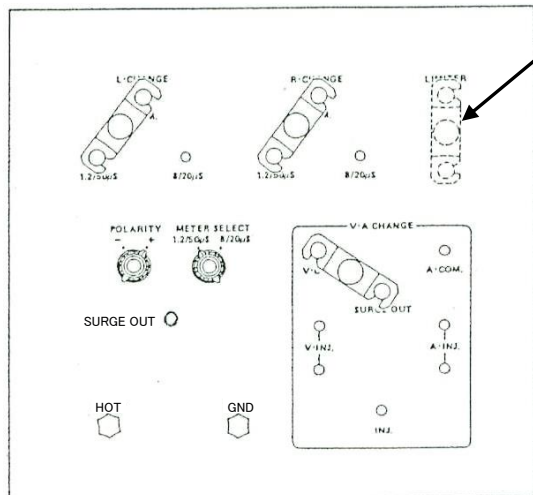

Fig. 4
2. Make connections on the Output waveform selector ⑭ as shown in Fig. 4.
3. Make connections on the Output waveform selector ⑭ as shown in Fig. 4. Set the METER selector ⑬ to the 1.2/50 μ s position and select the desired pulse polarity.